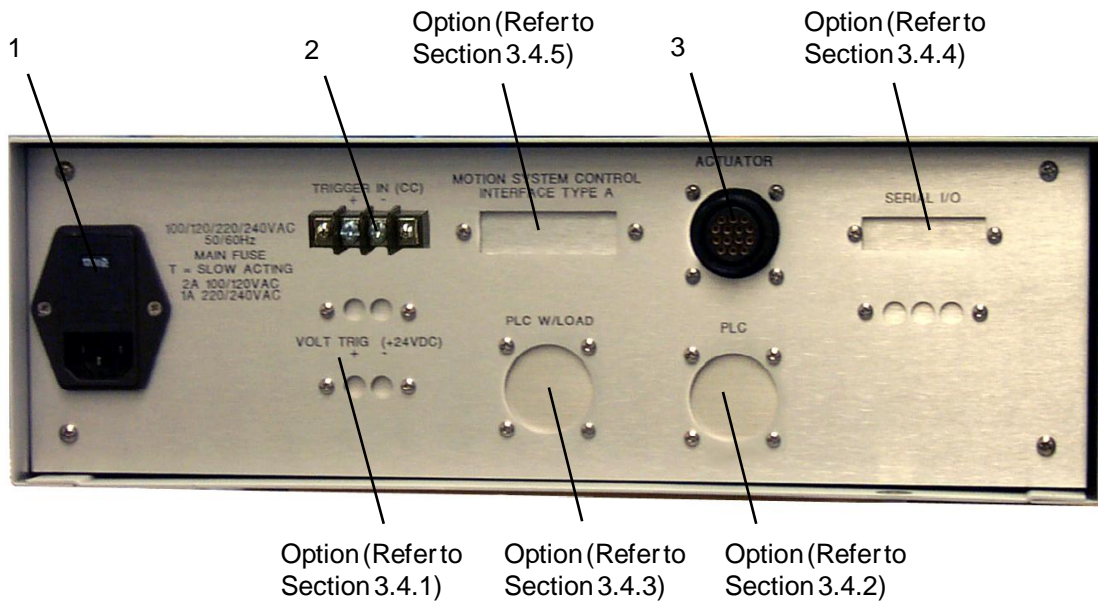

Figure 3.2 Digispense 2000 Controller Module Rear Panel
3.1.2 Rear Panel Detail (Figure 3.2)
3.1.2.1 Power Entry Module (Figure 3.2 Item 1)
3.1.2.2 TRIGGER IN Terminal Strip (Figure 3.2 Item 2)
3.1.2.3 Actuator Connector (Figure 3.2 Item 3)